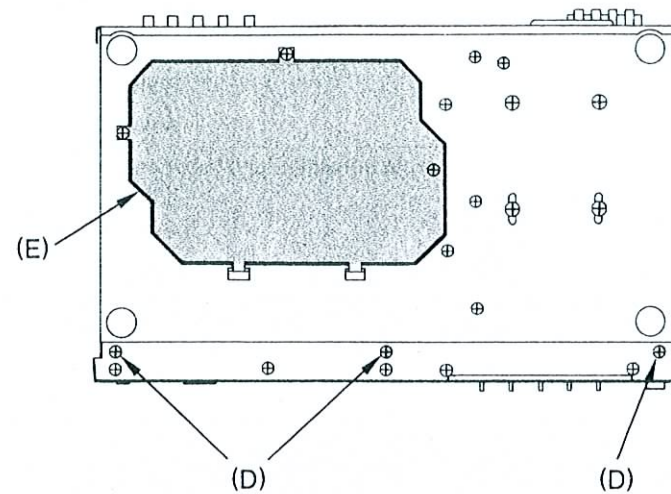

Fig. 3
5. Remove three screws (D) fastening Front Panel and then, pull Front Panel toward you. (Fig. 3)